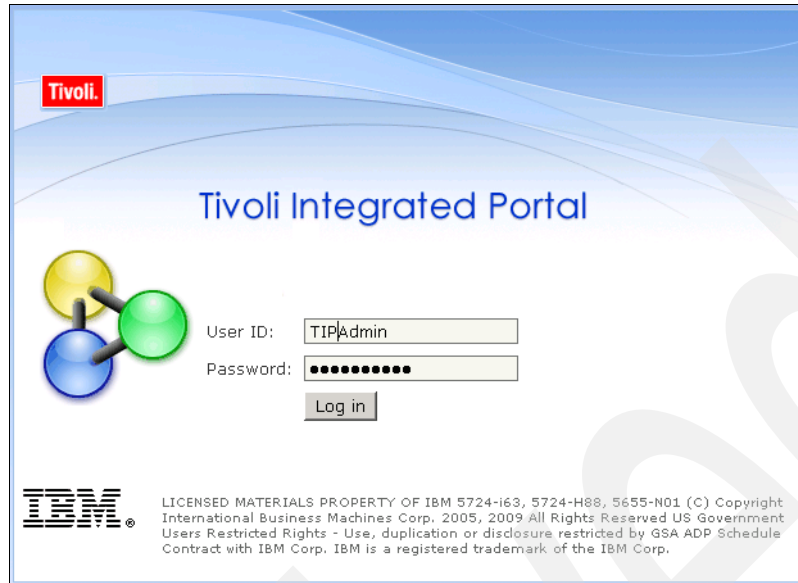

Figure 9-1 TIP Login with TIPAdmin user
1. Because users are going to be created, log in as TIPAdmin (Figure 9-1).
1. If you have not already done so, log in to Tivoli Integrated Portal as TIPAdmin (Figure 9-1 on page 163).